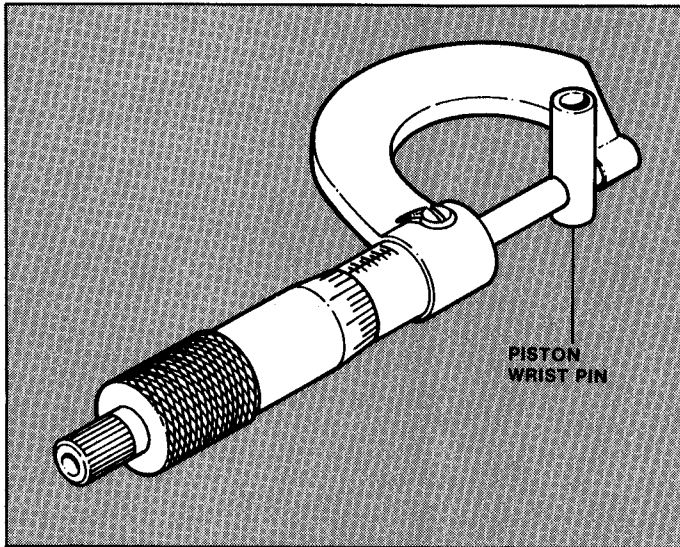

FIGURE 2.8
2. Measure outside diameter of wrist pin with a micrometer as shown in Figure 2.8.